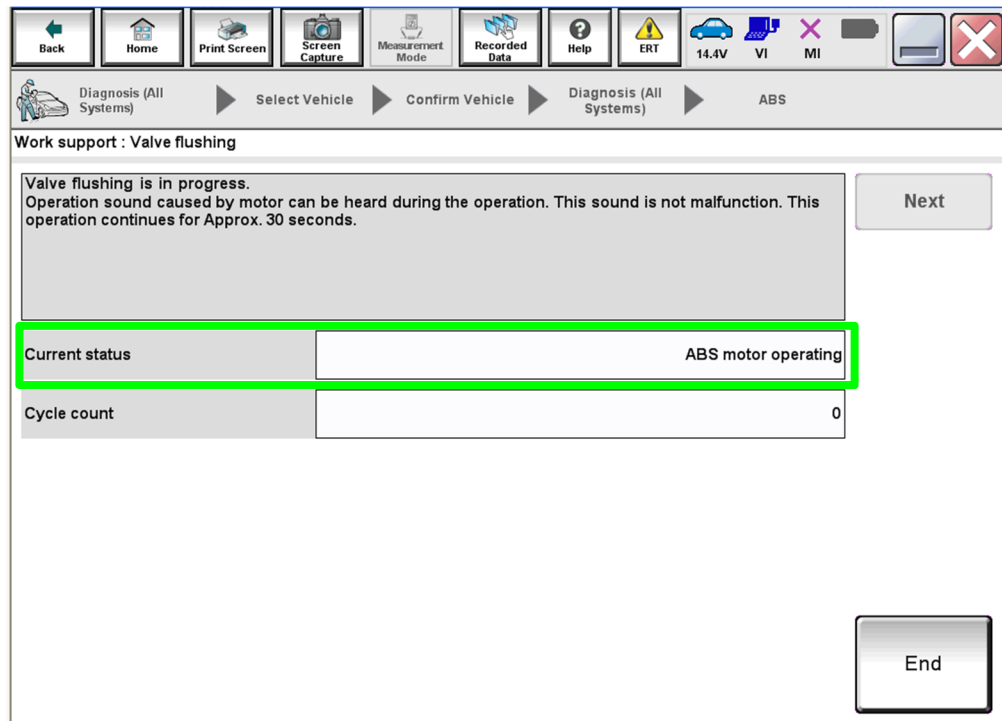

Figure 14
- "ABS motor operating" will be displayed on the screen under **Current status**. See Figure 14.